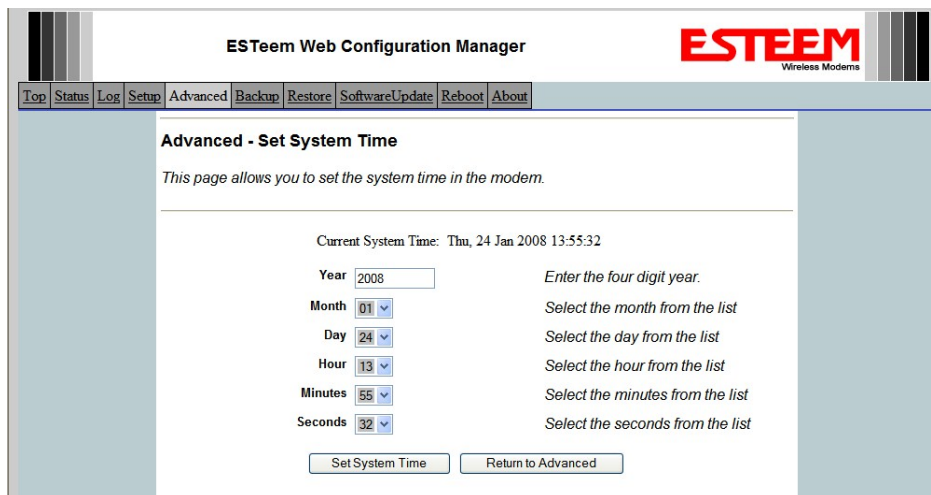

Figure 10: Advanced Features Screen
3. Select the correct date and time from the drop-down menus (Figure 10) and press the **Set System Time** button to save the time to the real time clock.